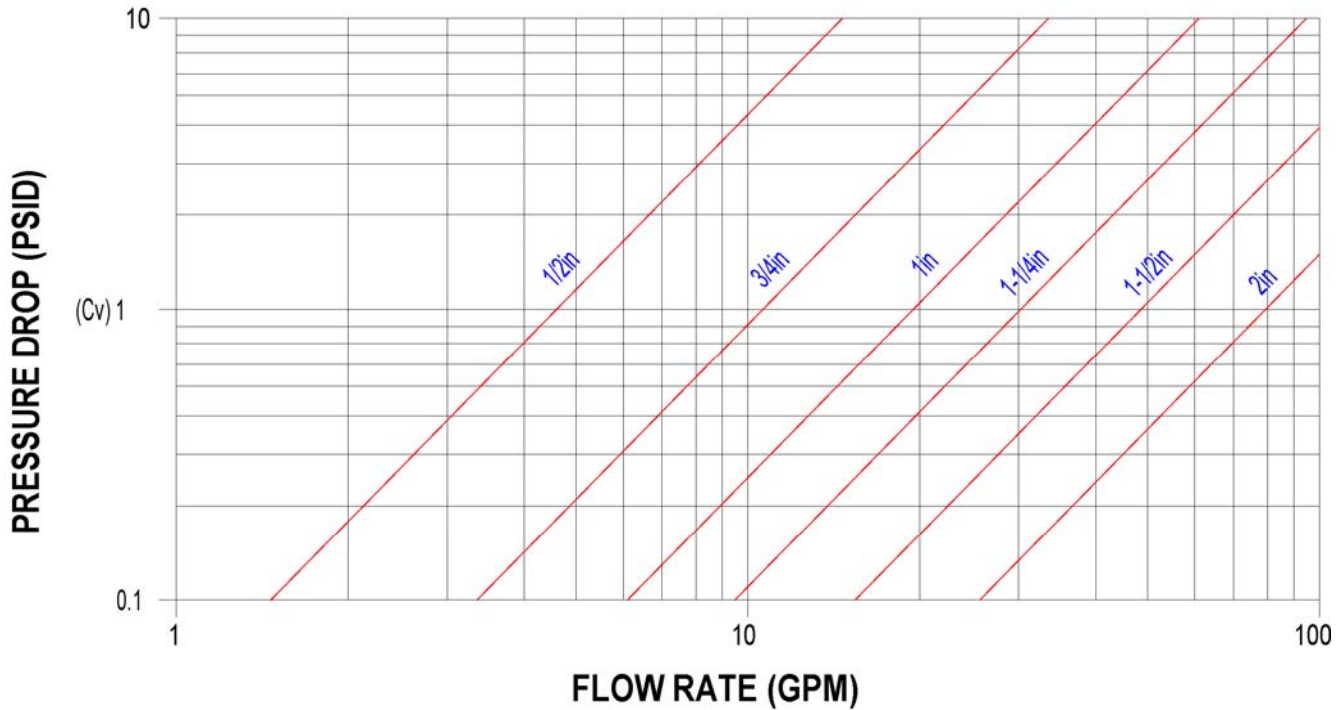

FIGURE 1
Multiply values obtained from Figure 1 and 2 by the appropriate values shown below
Strainer Size: 3" a) Using FIGURE 1 the pressure drop is determined to be 0.4 psid using the standard screen
- Step 1** Using FIGURE 1 or 2 determine the pressure drop through the strainer with water flow and standard screens = (P1)
- Step 4** Using CHART 2 multiply P3 by the appropriate Component Factor (CF) = (P3 x CF = P4)
- Step 6** Multiply P4 by the appropriate Body Loss Factor (BF) in CHART 3 to get P6 = (P4 x BF = P6)